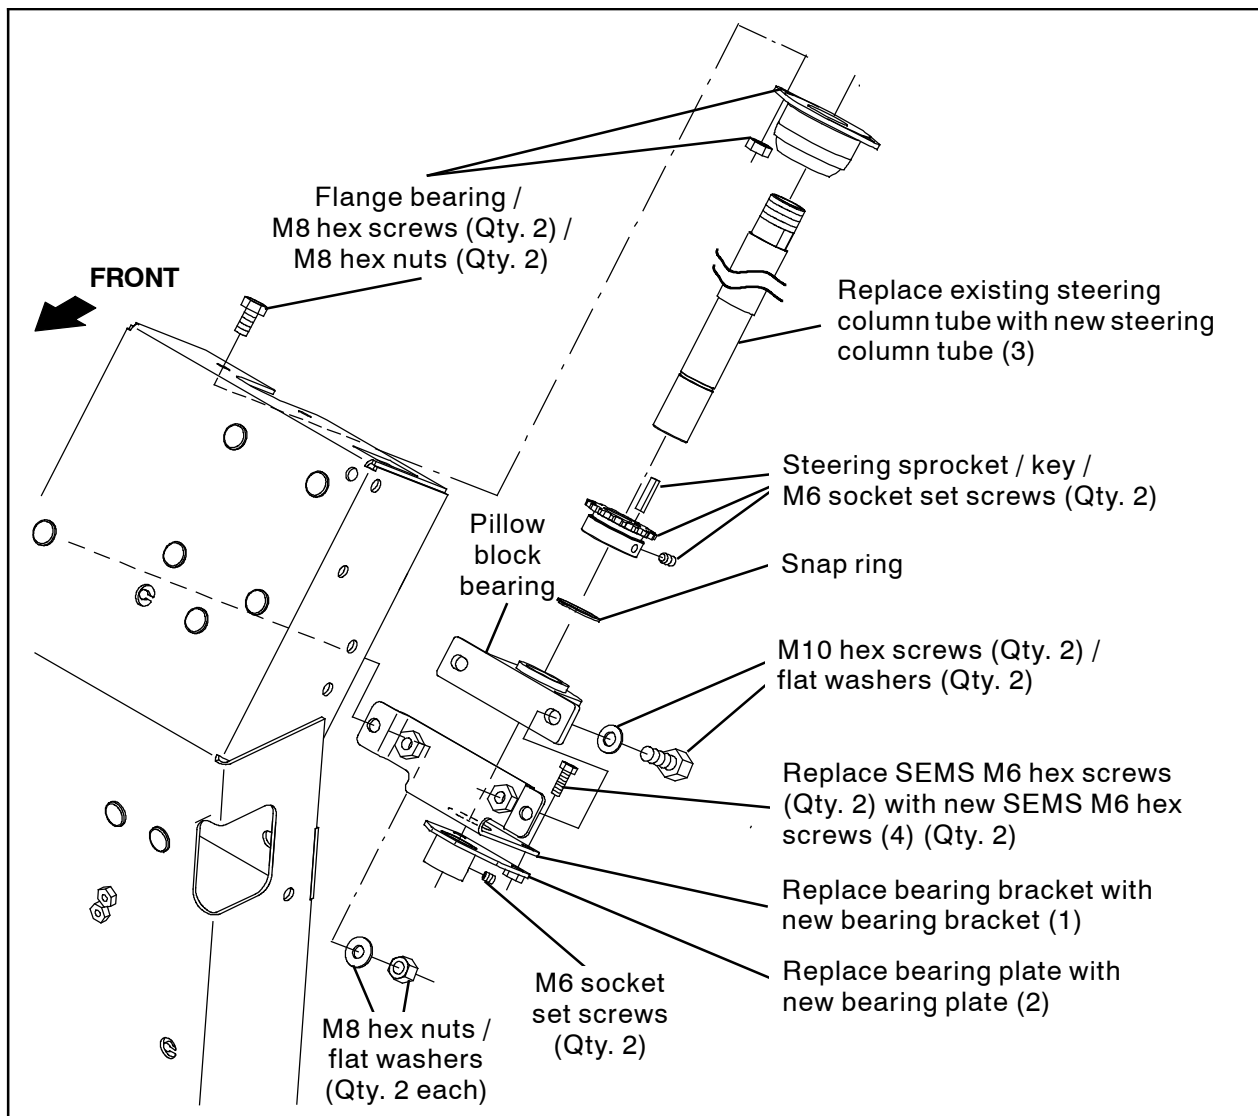
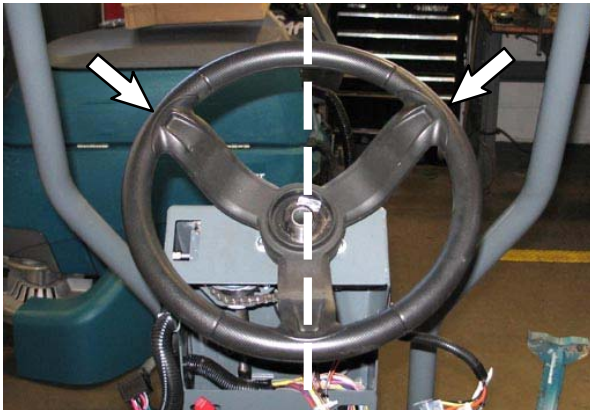

FIG. 10
FIG. 16
9. Remove the M8 hex screws and M8 hex nuts securing the flange bearing to the steering channel. Set the M8 hex screws and M8 hex nuts aside. (Fig. 10)
10. Remove the hardware securing the bearing bracket to the steering channel. Set the M8 hex nuts and flat washers aside. (Fig. 10)
11. Remove the steering column tube from the steering channel. (Fig. 10)
12. Remove the flange bearing from the steering column tube. (Fig. 10)
13. Remove the steering sprocket from the steering column tube. Set the steering sprocket, key, both M6 socket set screws, and the snap rings aside. (Fig. 10)
14. Remove the pillow block bearing / bearing bracket / support plate from the steering column tube. Discard the steering column tube. (Fig. 10)
15. Remove the pillow block bearing from the support bracket. Set the pillow block bearing and both M10 hex screws and flat washers aside. (Fig. 10)
16. Remove the M6 socket set screws from the bearing plate. Set the M6 socket set screws aside. Discard the support bracket / bearing plate assembly. (Fig. 10)
17. Install the new bearing bracket (1) onto the steering channel. (Fig. 10)
18. Slide the steering sprocket / key onto the new steering column tube (3) and align one of the socket set screws in the steering sprocket over the key. (Fig. 10)
19. Tighten the socket set screws enough to hold the steering sprocket / key into place on the steering column tube (3). (Fig. 10)
20. Install the snap rings onto the steering column tube (3). (Fig. 10)
21. Install the pillow block bearing and flange bearing onto the steering column tube (3). (Fig. 10)
22. Position the steering column tube (3) into the steering channel and use two M10 hex screws and two flat washers to install the pillow block bearing onto the bearing bracket (1). (Fig. 10)
23. Reinstall the flange bearing onto the steering channel. (Fig. 10)
25. Position one of the set screws in the steering sprocket on the steering column tube (3) over the key and align the steering sprocket with the other sprocket installed on the support plate weldment. (Fig. 10)
26. Hold a straight edge across both steering sprockets and tighten the socket set screws in the steering sprocket on the steering column tube (3). Tighten the socket set screw over the key first. Torque to 7.5- 9.8 Nm / 66.4- 86.7 in lbs. (Fig. 10)
27. Reinstall the steering tension hardware and use hardware to tighten the steering chain tension. Tighten the lock nut against channel when through tightening the chain tension. (Fig. 12 / Fig. 10)
31. Install the steering wheel onto the steering column tube (3) and align the steering wheel. **DO NOT INSTALL THE JAM NUT ONTO THE STEERING WHEEL / STEERING COLUMN.** (Fig. 16)
37. Reinstall the jam nut to secure the steering wheel to the steering column tube (3). Torque the jam nut to 68 Nm (50 ft / lbs). (Fig. 16 / Fig. 2)
38. Install the thrust washer onto the steering column tube (3) / steering wheel. (Fig. 16 / Fig. 2)
39. Insert the pod panel assembly (5) into the steering column tube (3). Position the pod panel assembly so controls are oriented properly for operation.
40. Install the saved M6 socket set screws into the new bearing plate (2). (Fig. 10)
41. Use two SEMS M6 hex screws (4) to install the bearing plate (2) onto the bearing bracket (1). (Fig. 10)